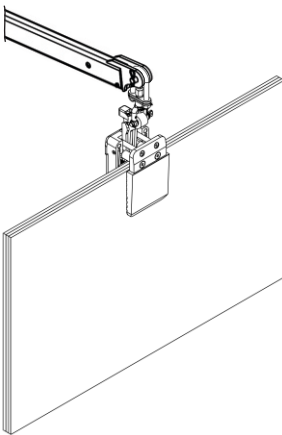

Figure 5.2
- After the lifter lift the stone slabs out of the frame (Figure 5.2), install the Multi Slab Safeguard Sling to the lifter (Figure 5.3).